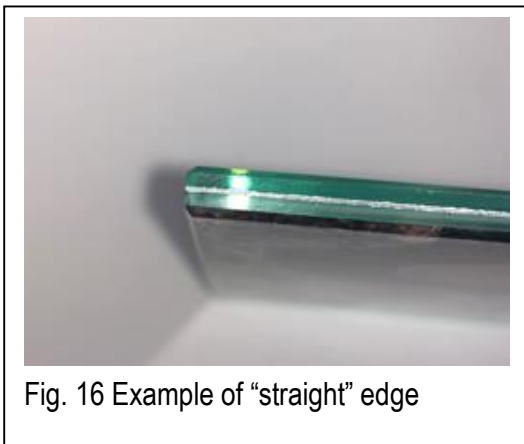

Fig. 16 Example of “straight” edge
- Alma, Aluminium, Antique, Antique Ocra, Antique Blue, Antique Green, Mirror, Vis One and Vis Two come with the “straight” edge (fig. 16);